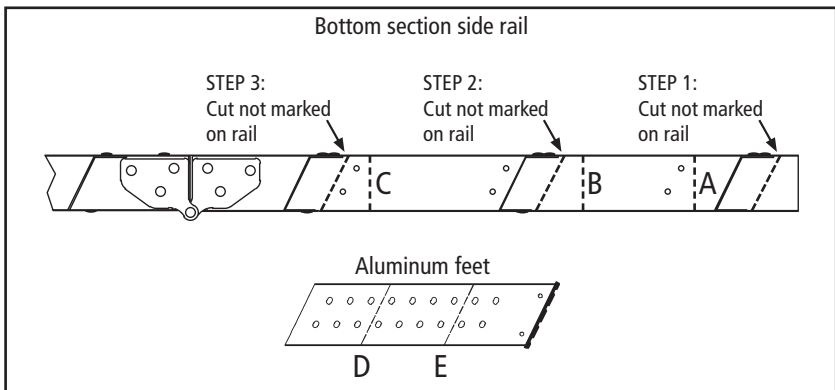

FIGURE 13
**NOTE:** The rail is not pre-marked for angle cuts required below a step (see Figure 13).